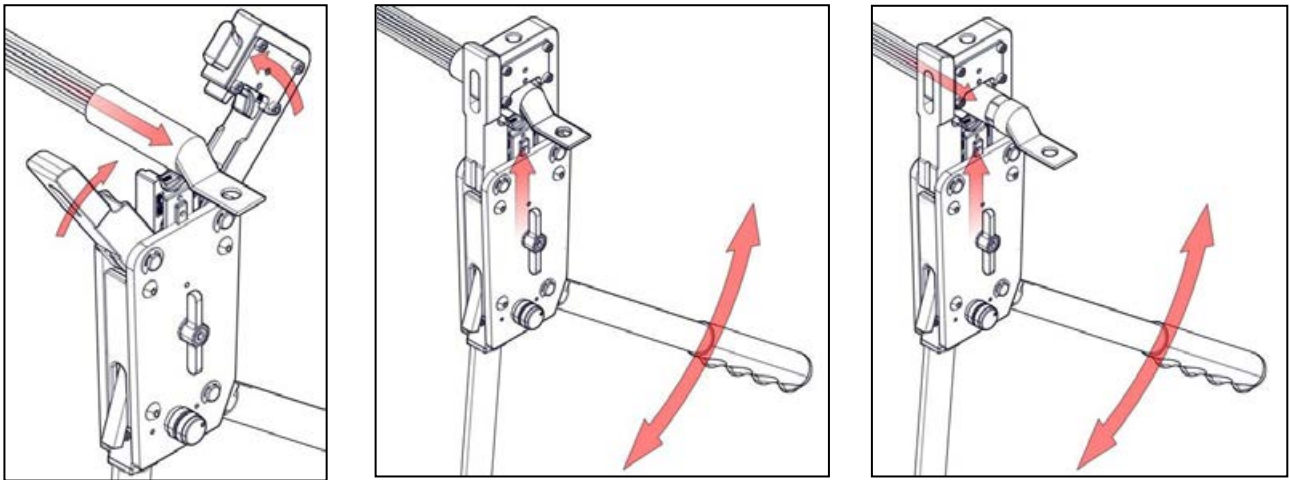

Figure 5. Crimping
(1) Process crimping and operate repeatedly as Figure 5..